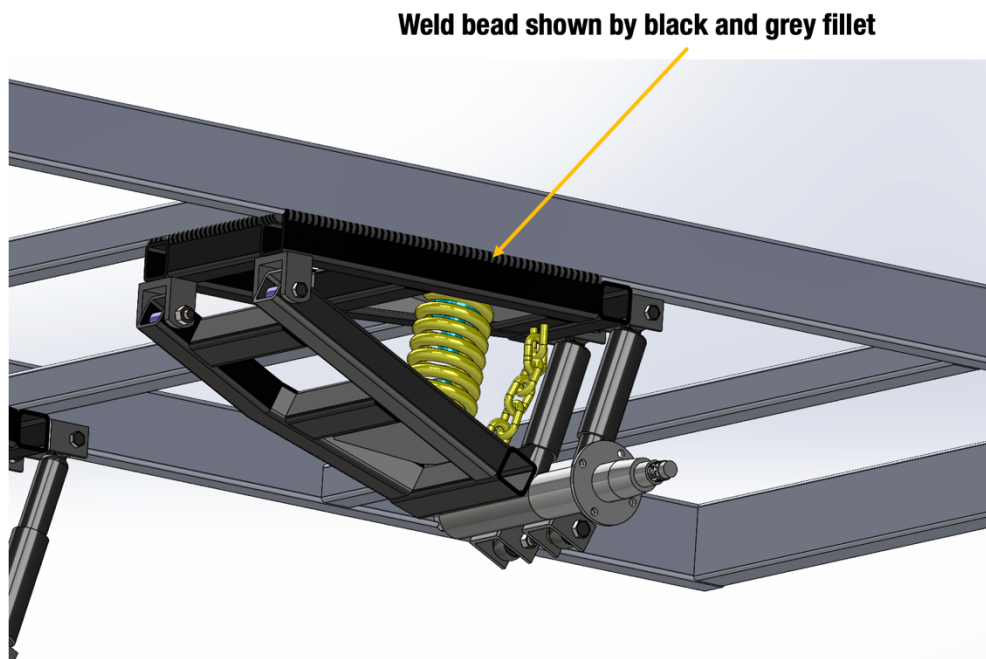

Figure 7
9. Weld along the chassis rail, and along the cross members a shown in Figure 7 and 8.